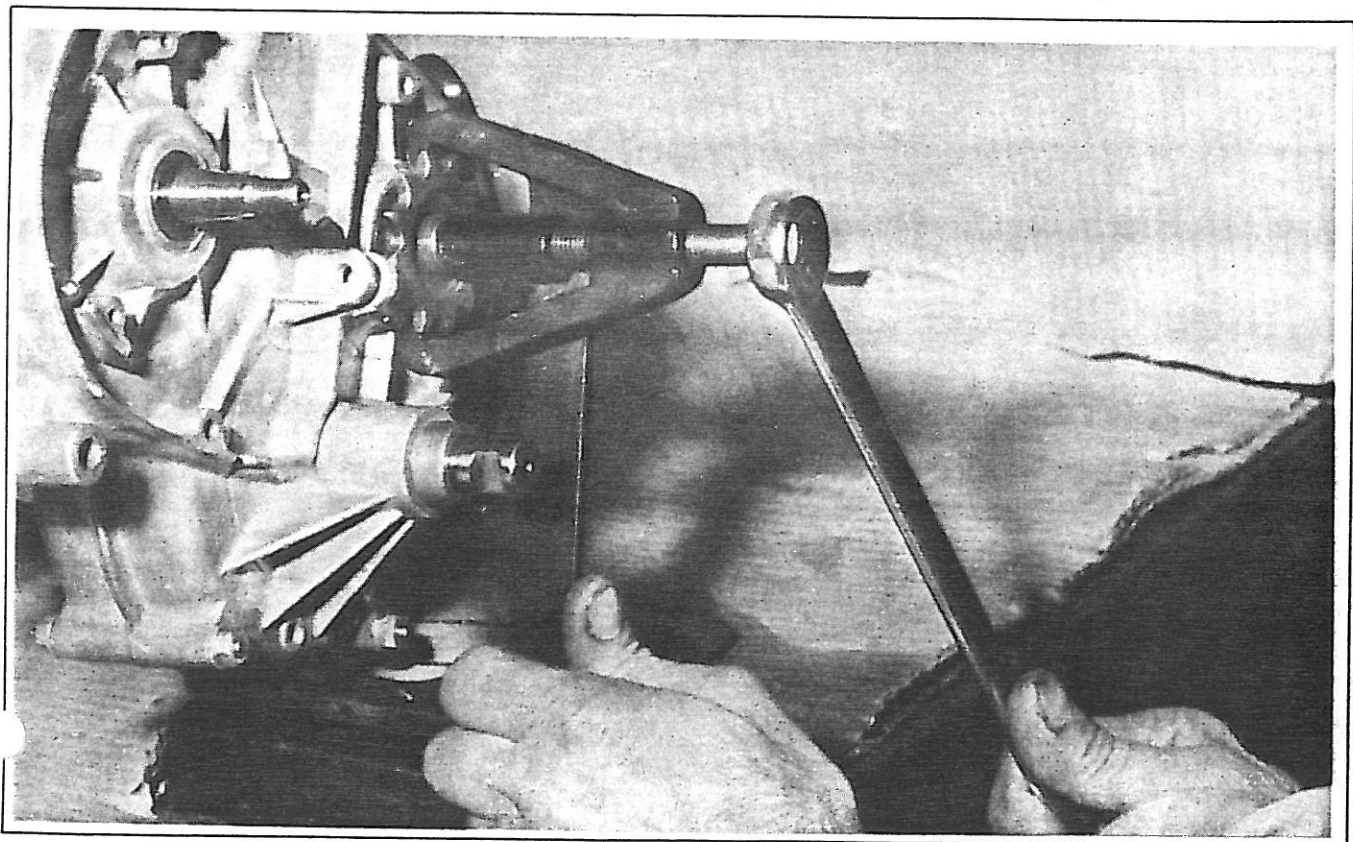

Figure 15.
3. Pull off the drive sprocket with puller N and adapter O (Figure 15). (Save the woodruff key.)